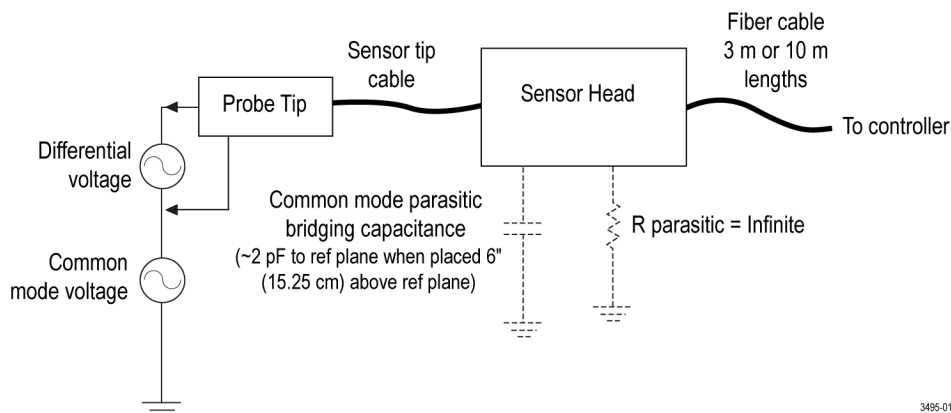

Figure 32: Block diagram
The common mode resistance and capacitance to earth ground is shown in the figure. (See Figure 32.) The common mode resistance is shown as $R_{parasitic}$ and is essentially infinite with the IsoVu measurement system since it is galvanically isolated and can be ignored. The common mode coupling capacitance to earth ground and the surrounding circuit is shown as the Parasitic Bridging Capacitance ($C_{parasitic}$). This parasitic capacitance will be approximately 2 pF when the sensor head is placed six (6) inches (15.25 cm) above a ground plane.